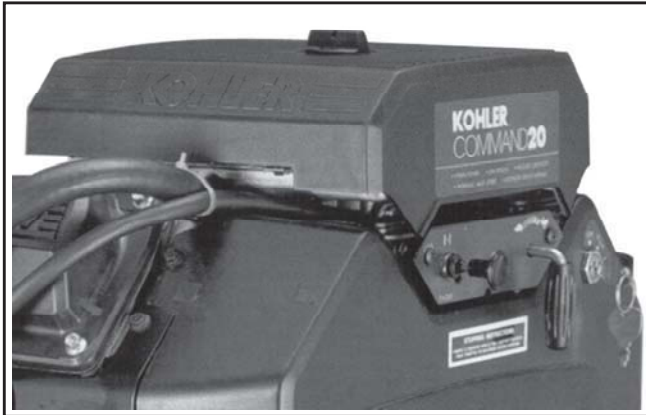

Figure 5. Optional Engine Mounted Throttle and Choke Controls.
1. Place the throttle control **midway** between the “**slow**” and “**fast**” positions. Place the choke control into the “**on**” position. See Figure 5 (Command Series shown). On dual-fueled engines, place the three-position fuel control switch in the **gasoline** position (engine **must** be started and run on gasoline for 1 minute to heat up oxygen sensor).